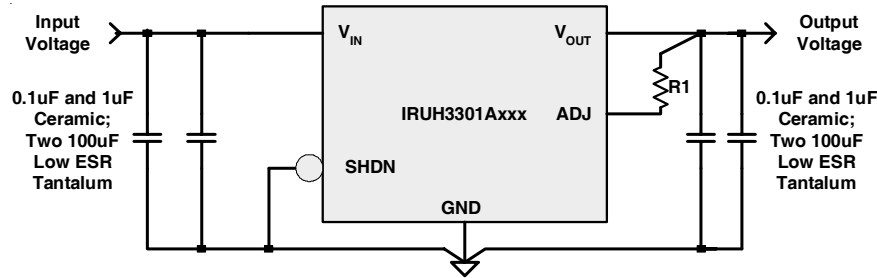

Fig. 1. Typical Regulator Circuit; Note the SHDN Pin is hardwired in the “ON” position.
- ① Connected as shown in Fig.1 and measured at the junction of V_{OUT} and ADJ Pins.
② Under normal closed-loop operation. Guaranteed by design. Not tested in production.